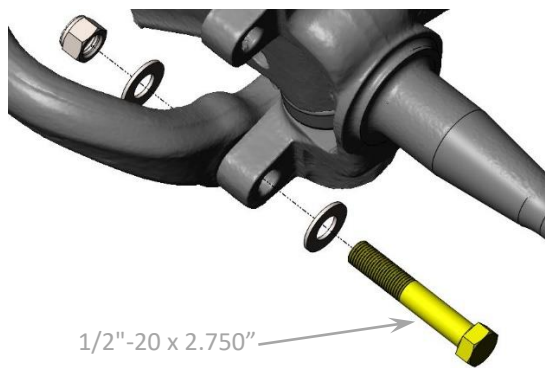

Figure 1a – Steer Arm Bolt Installation
4. Install the provided forward most steer arm bolt at this time. This bolt is not used in the next step to secure the Primary caliper bracket. Insert the 1/2"-20 x 2.750" Grade 8 Hex Head Bolt through the spindle and the steer arm and secure it with the provided 1/2" SAE Flat Washers and 1/2"-20 Nyloc Lock Nuts. See Figures 1a and 1b on the next page for reference on which location to install the bolt. **NOTE: Do not fully tighten at this time, it will be torqued in a later step.**